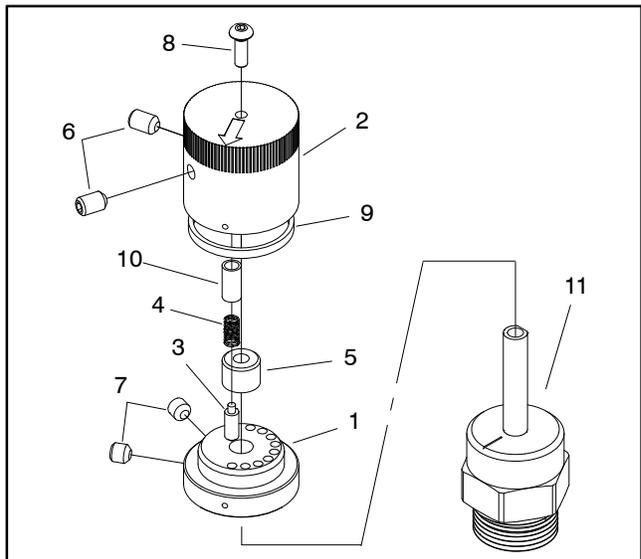

Figure 68
1. Remove rotary handle from valve (Fig. 68):
- A. Loosen two (2) set screws that secure handle cap.
- D. Loosen two (2) set screws that secure handle base to flow control valve and remove base.
6. Install rotary handle (Fig. 68):
A. Place handle base on flow control valve and position alignment mark on base with number 1 on manifold. Secure base with two (2) set screws. Apply a light coating of grease to chamfer on top of base to ease seal installation.
D. Make sure that alignment marks on cap and base are in line and that arrow on cap is pointing to number 1 on manifold. Tighten two (2) set screws to secure handle cap.